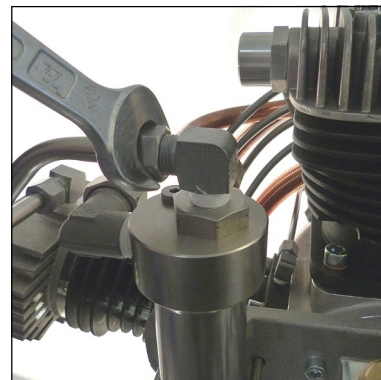

Fig. 1 - Loosen pipe connections
- Loosen pipe connections (Fig. 1)